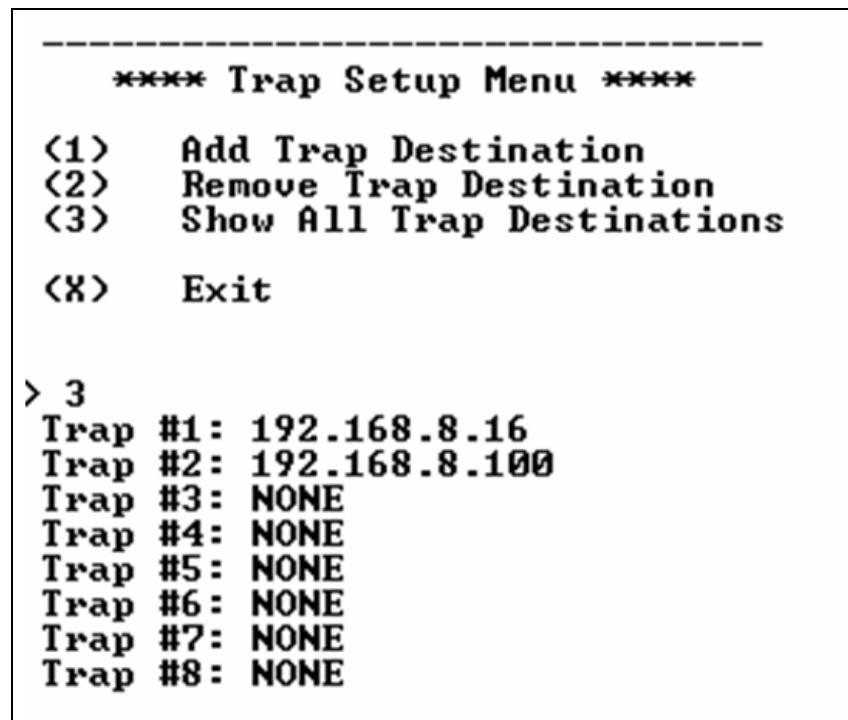

Figure 2-8: Show All Trap Destinations
17. The user can view the trap destinations assigned to the card by selecting option <3> *Show All Trap Destinations*. A list of trap destinations will be displayed as shown in Figure 2-8. To exit the *Trap Setup Menu*, select the <x> *Exit* and you will return to the Main Menu.